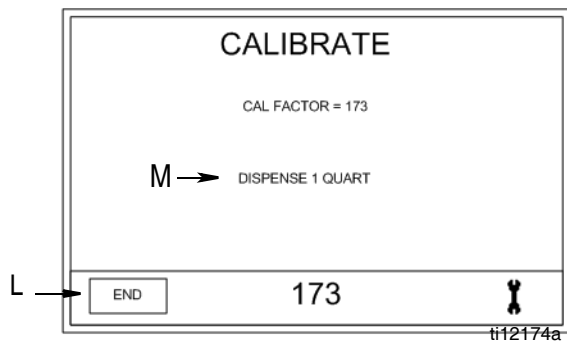

FIG. 14
Calibrate Screen (FIG. 14)
1. Use your LEFT or RIGHT ARROW to move the cursor to the Calibration Factor Field (K) .
2. Use the UP or DOWN ARROW to manually adjust the Preset Calibration Factor up or down (this can only be done on Calibrate Screen 1 (FIG. 14).
3. Press center, ENTER button to confirm new setting. New setting displays in Calibration Factor field (J).
M. Dispense: Only appears on Screen 2 (FIG. 14). Displays amount operator dispensed during calibration test.
Recalibrating the Meter (FIG. 14)
See FIG. 14, page 16 for the Calibrate Screens 1 and 2 referenced in the following instructions.